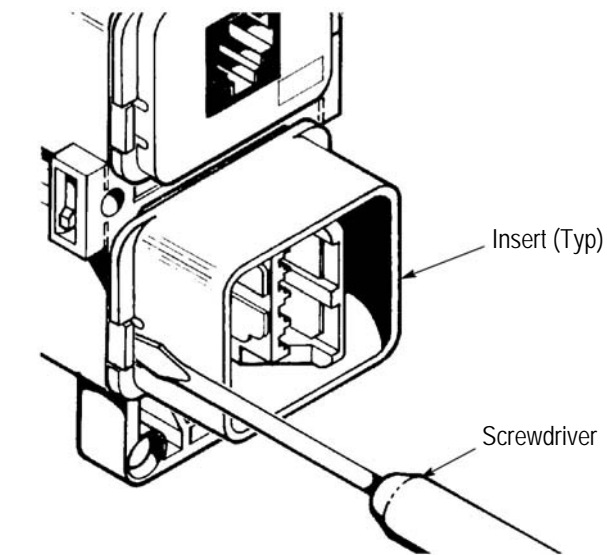

Figure 16
9. REMOVAL OF INSERTS (Figure 16)